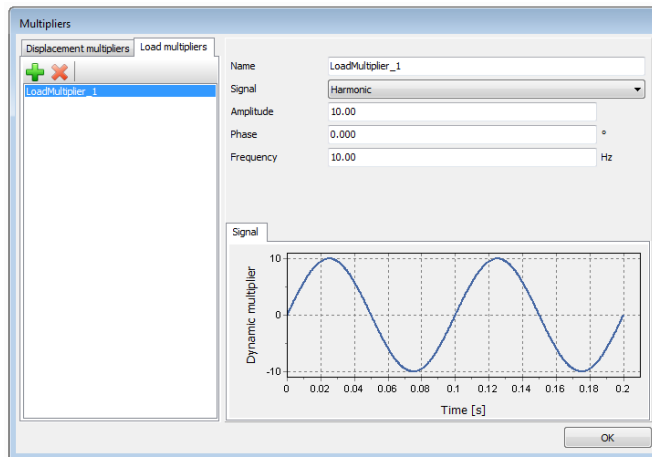

Figure 8.3 Definition of a *Harmonic* multiplier
- Define a *Harmonic* signal with an *Amplitude* of 10, a *Frequency* of 10 Hz and a *Phase* of 0° as shown in Figure 8.3.